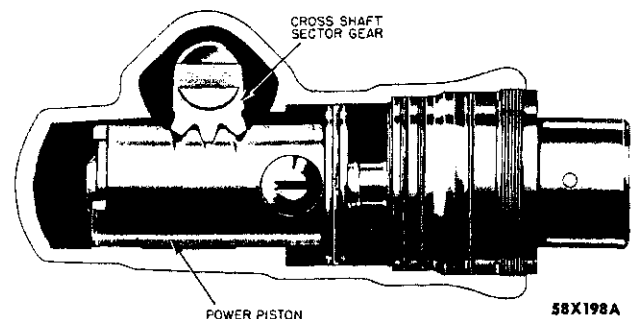

Fig. 18—Steering Gear Housing (Sectional View)
The power steering gear consists of a gear housing containing a gear shaft with sector gear, a power piston with gear teeth milled into the side of the piston is in constant mesh with the gear shaft sector (Fig. 18) and a worm shaft connects the steering wheel to the power piston. The worm shaft is geared to the piston through a recirculating ball contact.
(6) Rotate the worm shaft to the full right turn position, then return the worm shaft to the center of travel. This will place the piston in the center position (Fig. 18). Withdraw the gear shaft until the sector teeth clear the housing. Rotate the shaft 180 degrees and allow the ends of the teeth to rest on the housing.
(7) Turn the worm shaft to full right turn posi-